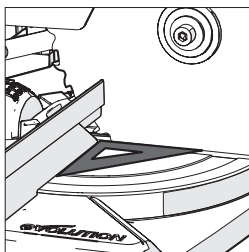

Fig. 14
- Place a set square on the table with one short edge against the fence and the other short edge against the blade (avoiding the TCT tips of the blade teeth) (**Fig. 14**).